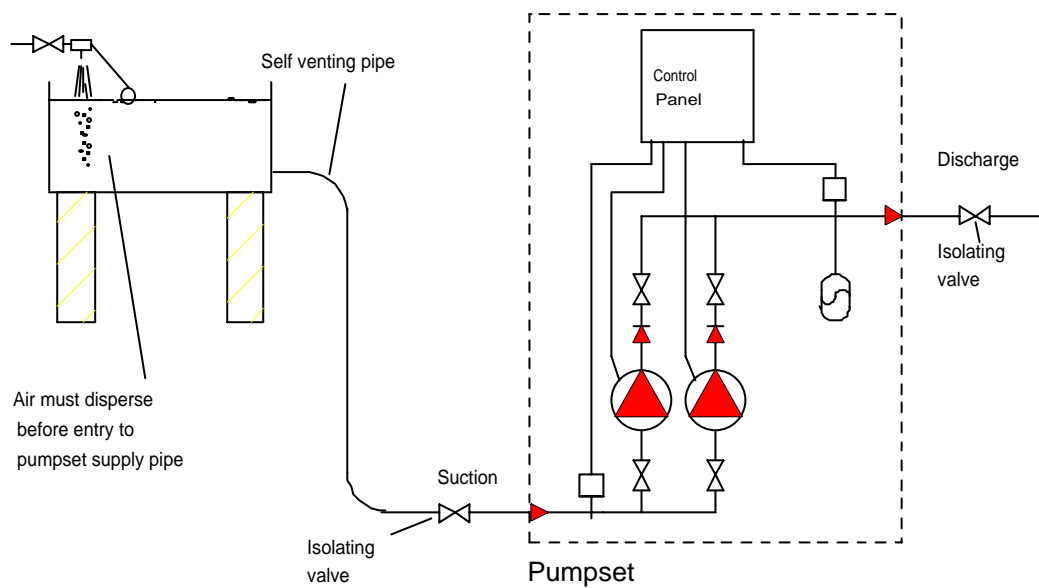

Fig. 1.1 Pipework
- 1.3.4.2** Arrange the suction pipework to be self venting between the mains water break tank and the pumpset suction manifold (see fig.1.1).
- 1.3.4.3** Fit isolating valves to the suction side and discharge side of the pumpset (see fig.1.1), to enable the pumpset to be isolated from the system for maintenance purposes.